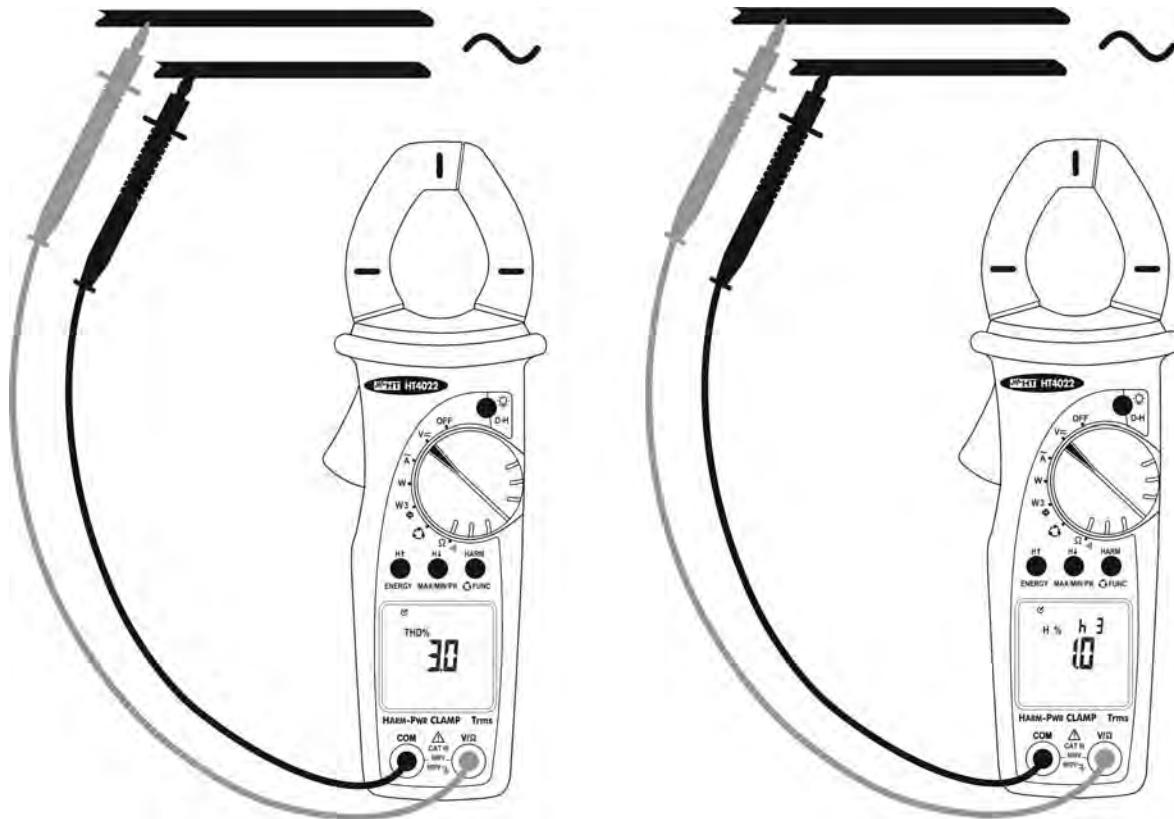

Fig. 6: Use of instrument for AC voltage harmonic measurement
4. Connect the test leads to the circuit under test (see Fig. 6). The instrument displays the Total Harmonic Distortion value of the input signal. The symbol “**THD%**” is shown on the display. See § 8 for the parameter's definition